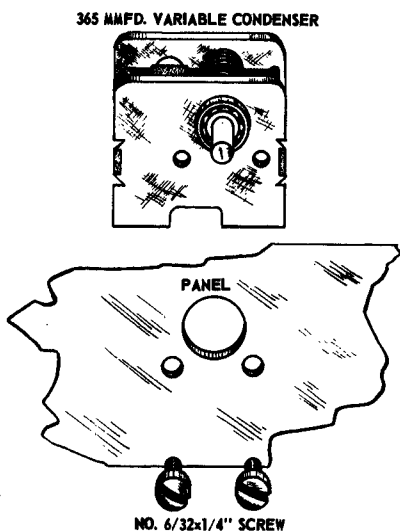

Figure 7.
- 47. Mount the FINAL PL. TUNE condenser TC-1 on the rear of the panel as per Fig. 7. Slip a #6 lockwasher over each of two 6-32x $\frac{1}{4}$ " screws. Insert the screws from the front of the panel and tighten securely.
- 48. Mount the ANT. LOAD condenser TC-2 on the rear of the panel as per Fig. 7. Use same type hardware and procedure as per step 47.